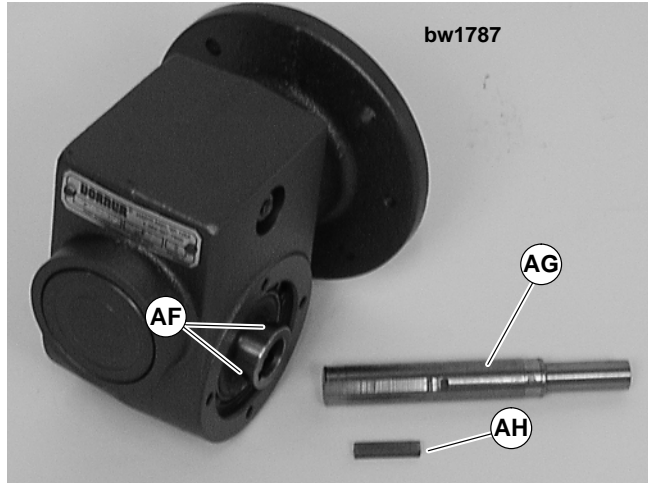

Figure 16
8. Loosen six (6) set screws (AF of Figure 16). Remove drive shaft (AG) and key (AH).
10. Replace the original shaft components into new gear reducer (see Figure 16).